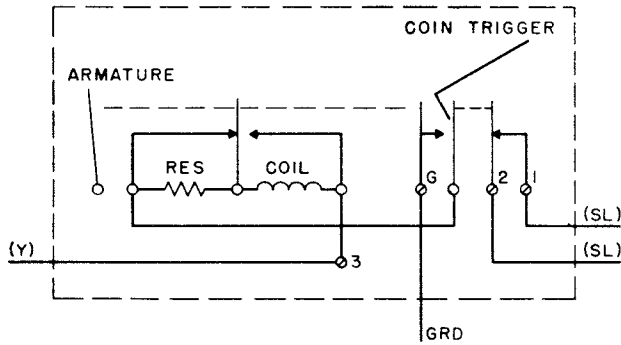

Fig. 10 — P-10E786 Single-coil, Slow-release Coin Relay
6.07 The single-coil, slow-release, coin-relay switch assembly, in addition to ground and dial-shortening contacts, has a 3-spring break-make combination which functions to short-circuit either a resistor or the relay coil as shown in Fig. 10 and as covered in 6.16.
6.16 The slow-release feature is obtained by short-circuiting the coin-relay winding near the end of the operate stroke (see Fig. 10). During the holding period the 1000-ohm resistor is substituted for the short-circuited relay coil. This